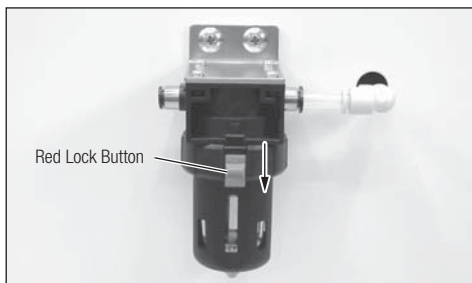

Fig. 27
- 1) Push the Red Lock Button down. (slide to OPEN position) (Fig. 27)